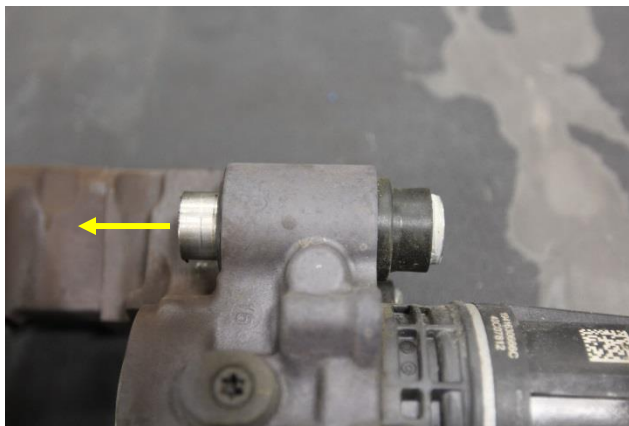

Figure 19
29. Remove the upper sliding pin from the LH parking brake caliper, and then inspect for corrosion (Figure 19).